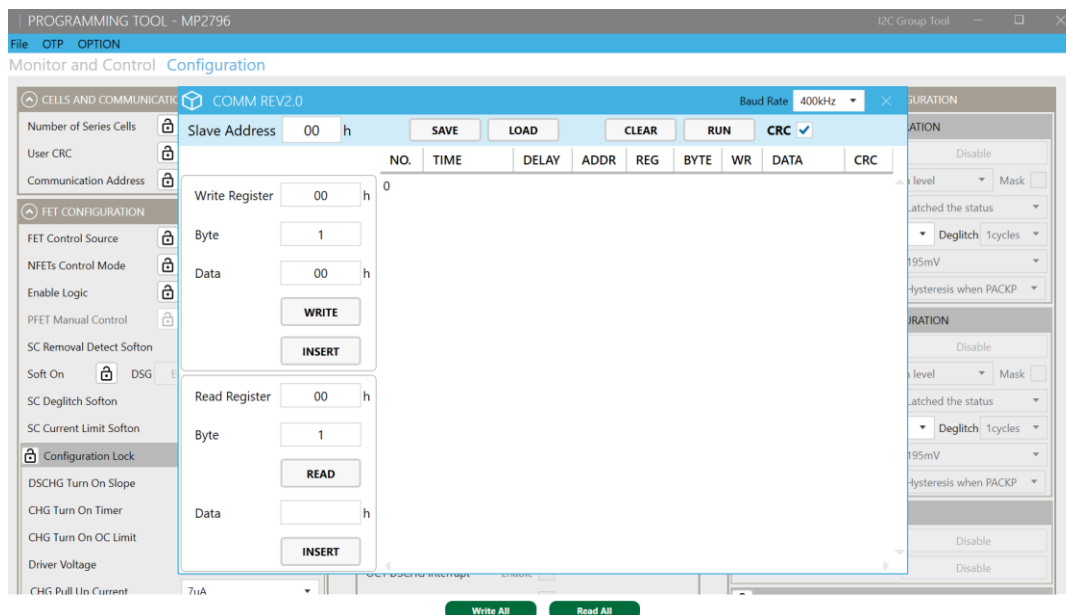

Figure 17: Group Tool to Configure a Single Register
5. Click “I2C Group Tool” (for the -0000 configuration code) or “SPI Group Tool” (for the -0002 configuration code) at the top right of the GUI window to configure a single register in the “COMM REV2.0” window that pops up (See Figure 17).